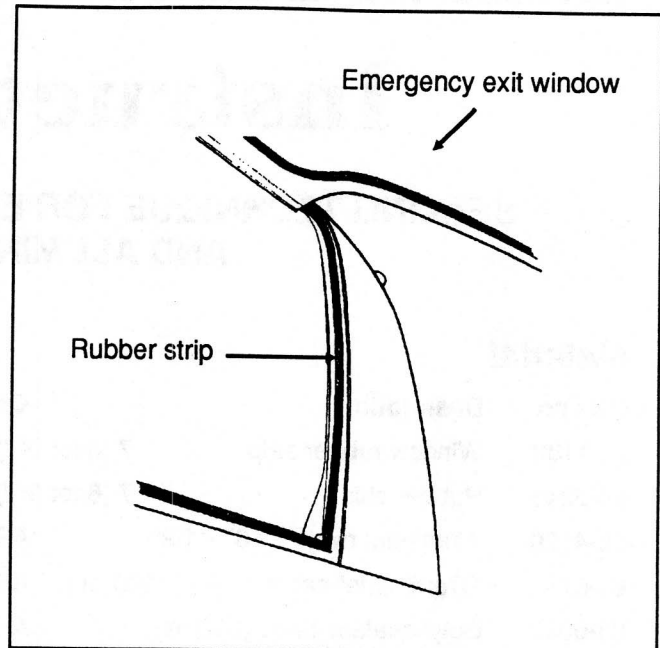

Figure 3
14. Remove the rubber strip on the outline of each emergency exit window. See figure 3.